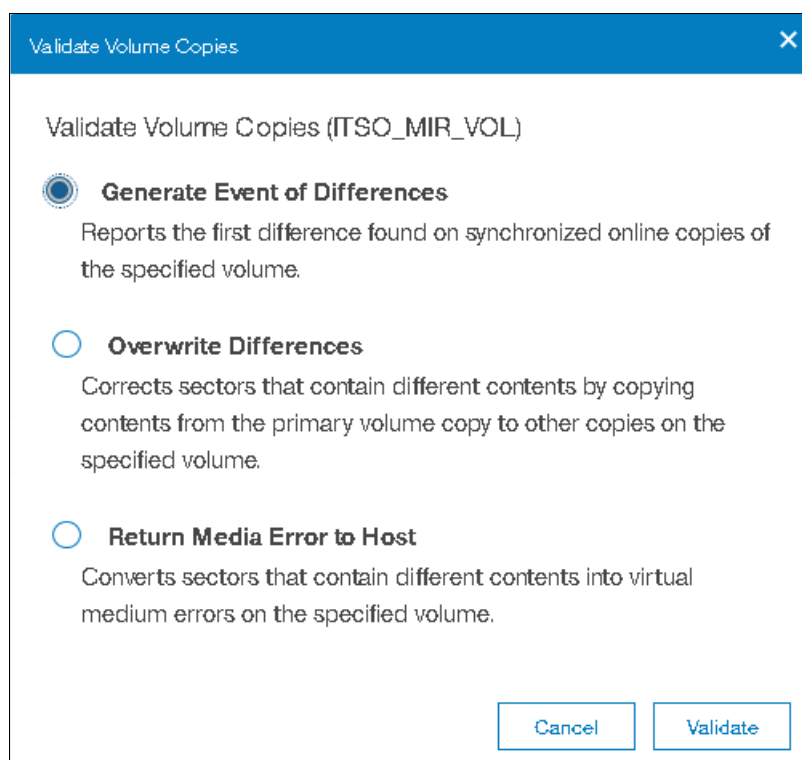

Figure 8-71 Validate Volume Copies panel
2. The Validate Volume Copies dialog opens, as shown in Figure 8-71.